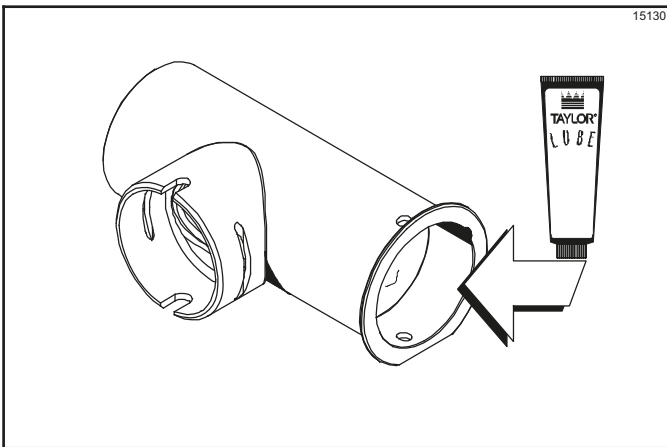

Figure 6-24
3. Apply a thin layer of lubricant to the inside of the pump cylinder at the retaining pin hole end. (See Figure 6-24.)